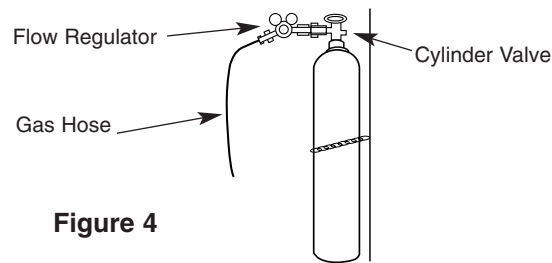

Figure 4
1. Chain the cylinder to a wall or other stationary support to prevent the cylinder from falling over. Insulate the cylinder from the work circuit and earth ground. Refer to Figure 4.